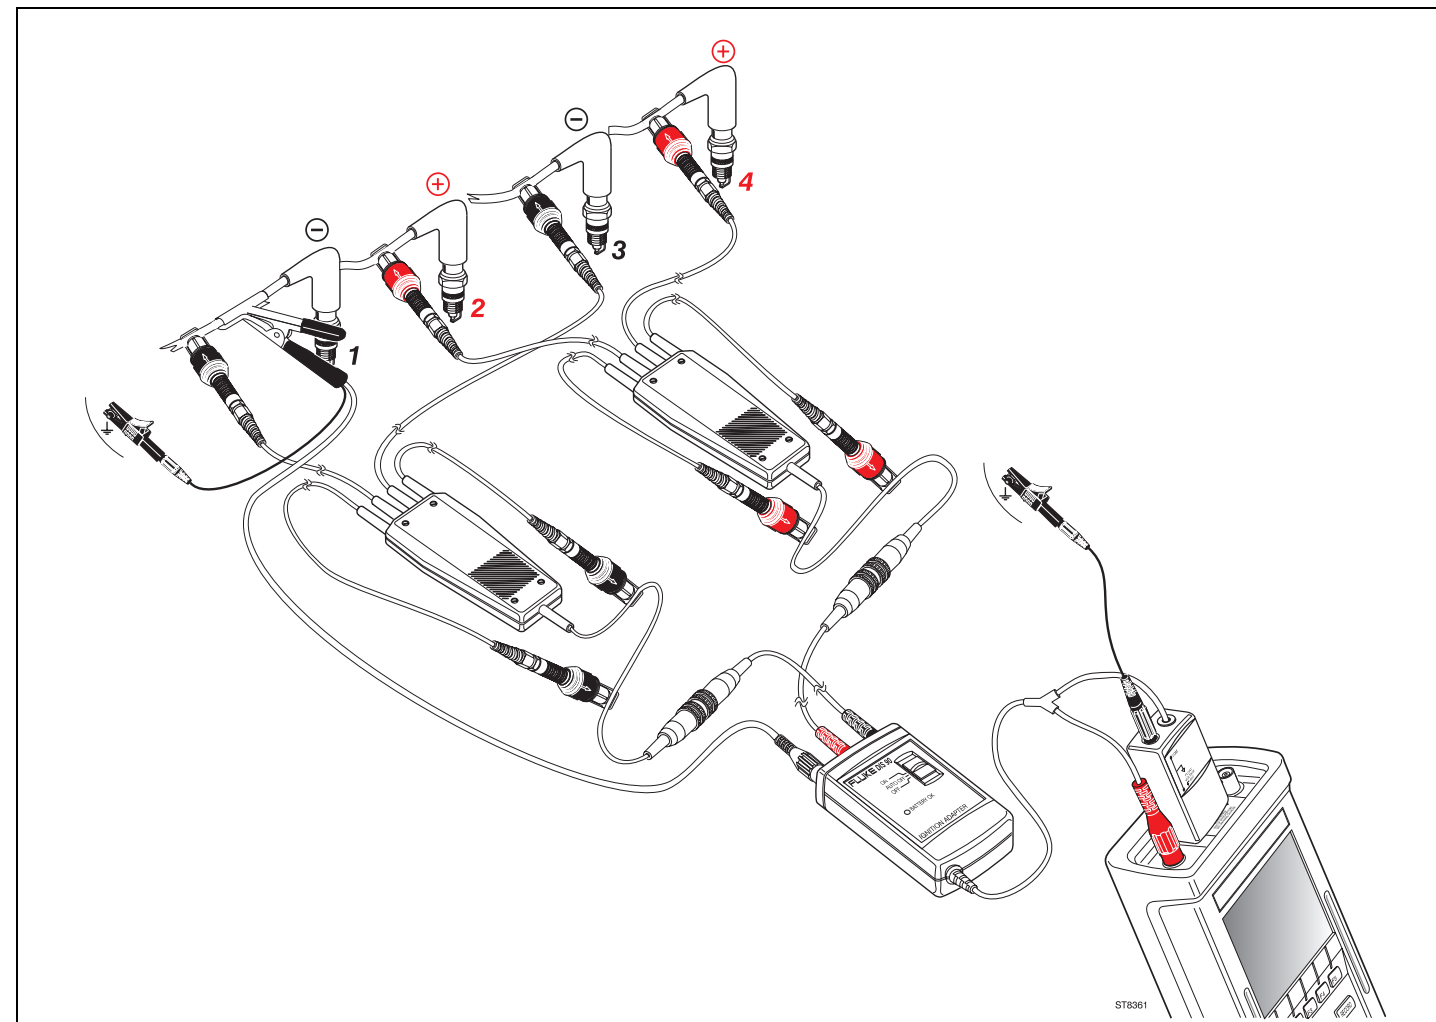
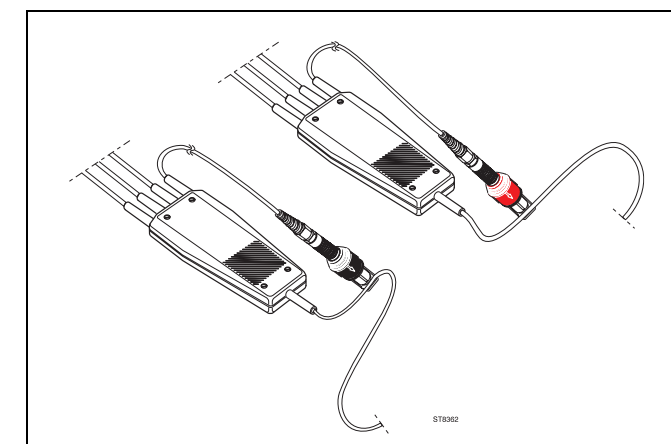

Figure 3. Measurement setup with the DIS 90 for a 4-cylinder dual-spark ignition coil system.
Figure 4. Connection of the unused pickups (example for six cylinders)
Figure 3 shows a connection example for a 4-cylinder DIS engine. General connection procedure:
1. Connect the DIS 90 Adapter to the Fluke 98 Automotive ScopeMeter as shown in Figure 3. Use a ground lead to connect the COM input on the small connection unit to ground e.g. battery ground.
6. Clamp the remaining pickups on the connecting cable to the Ignition Adapter unit. See the example for four cylinders in Figure 3 and for six cylinders in Figure 4. For safety reasons
7. Clamp the Capacitive Secondary Pickup (CAP 90 or PM9096/001) on a spark lead with negative polarity (**black** pickup connected). Clamp it as close as possible to the spark plug (see figure 4). This cylinder is then displayed as first cylinder in the parade picture.
The following is an application example of how to measure a DIS system (with dual-spark ignition coils) for a 4-cylinder engine. See Figure 3.
- ①
- ②
- ③
- ④
- ⑤ Connect the DIS 90, the Capacitive Secondary Pickup, and the ground leads as displayed on the Fluke 98 and depicted in the example of Figure 3.
- ⑥ Starts the secondary parade measurement.